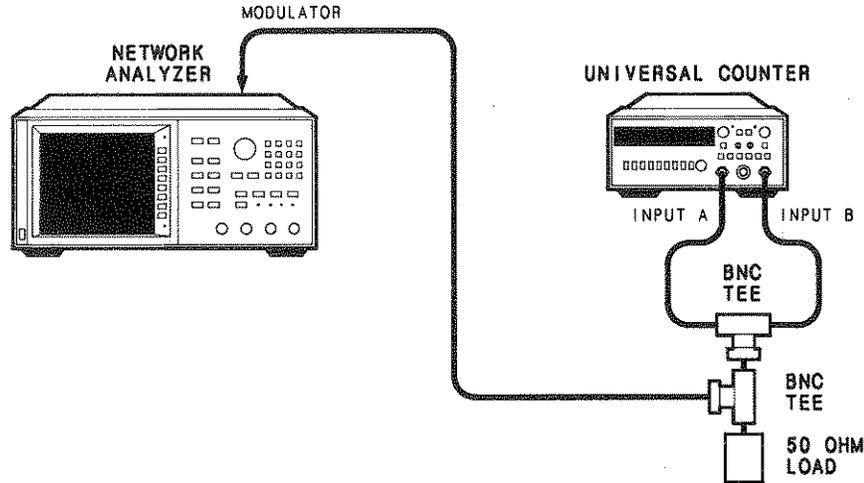

Figure 4-5. Frequency Accuracy and Symmetry Test Setup
9. Connect the equipment as shown in Figure 4-5.